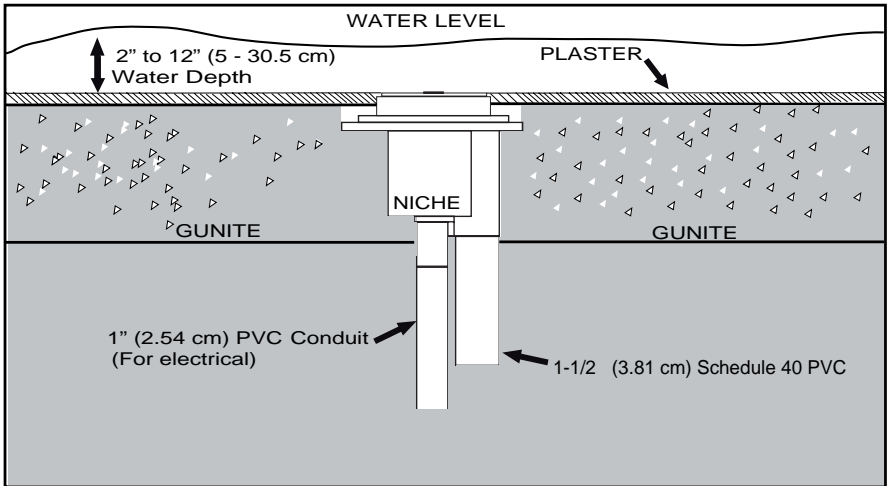

Figure 1.
- The Junction Box and the low voltage transformer is located at least 4 in (10.16 cm) above ground level or 8 in (20.3 cm) above maximum water level, whichever is higher. The Junction Box must be at least 48 in (1.22 m) from the edge of the pool. See Figure 1 on page 6.
2. Install the ColorVision light niche in the pool or spa floor, see Figure 1 on page 6. **Note: The niche is ABS so use ABS to PVC cement to connect the water line and electrical conduit to the niche.**
4. Apply plaster up to the outer edge of the gunite cover. The gunite cover should be the only exposed part of the niche after plastering, see Figure 1 on page 6.
4. Install the ColorVision light niche in the pool or spa floor. Set the niche such that the pool floor is flush with the top of the spacer ring. See Figure 1 on page 6. The niche is ABS so use ABS to PVC cement to connect the water line and electrical conduit to the niche.
- The Junction Box and the low voltage transformer is located at least 4 (four) inches (10.16 cm) above ground level or eight (8) inches (20.3 cm) above maximum water level, whichever is higher. The Junction Box must be at least 48 inches (1.22 m) from the edge of the pool. See Figure 1 on page 6.